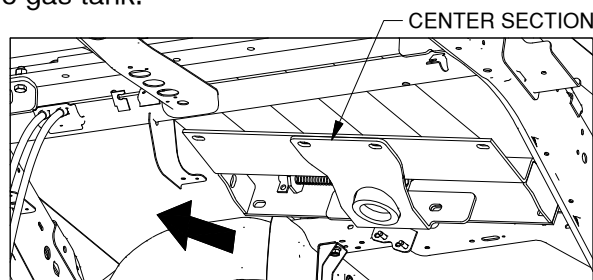

Figure D1: Looking up under truck bed. (Exhaust not shown.)
- 1. Maneuver center section into place.** Raise the center section up between the frame on the passenger side of the truck and the exhaust pipe with the latch pin toward the driver side, as shown in Figure D1. Once it is over the exhaust, turn it flat and slide it over the gas tank.